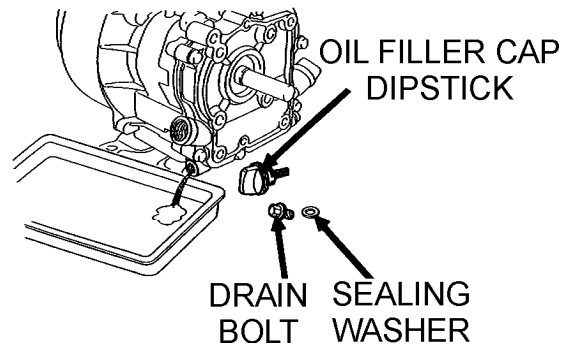

Figure 31. Draining Engine Oil
2. Drain the engine oil when the oil is warm as shown in (Figure 31).